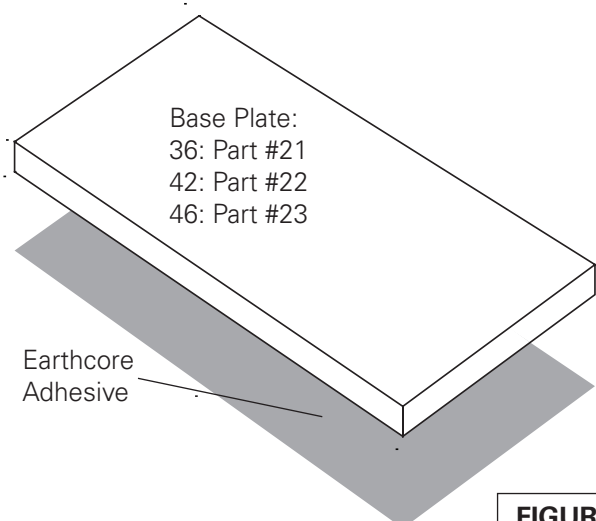

FIGURE 17
1. Set the base plates in a full bed of Earthcore Adhesive on a level support surface. See page 22 for supporting floor system. **(Figure 17).** Do not set the base plate so that it is in span.